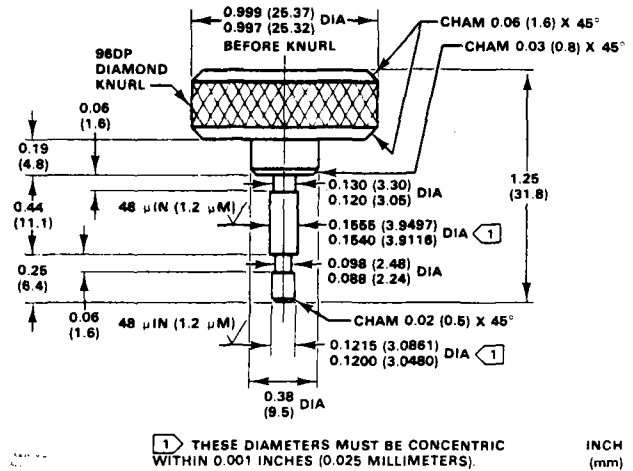

Figure 11. Relay Alignment Tool
Although the alignment tool shown in figure 11 is not required for assembly of the relay, use of the tool will prevent excessive air consumption and dead band. If low air consumption and minimum dead band are required, make or purchase the alignment tool before disassembling the relay. Key numbers used in the following procedure are shown in figure 17 for standard relays and in figure 18 for high-temperature relays except where indicated.
6. Install screws (key 96) and, for standard relays, washers (key 98) but do not tighten the screws.
7. If an optional alignment tool (figure 11) is to be used, insert the smaller end of the tool into the opening in the relay body. If the tool does not engage the hole in the diaphragm assembly, move the relay parts slightly to reposition the diaphragm assembly so that the alignment tool engages the hole in the diaphragm assembly. Do not remove the alignment tool until the relay screws have been tightened.
8. Tighten the relay screws (key 96) evenly. Remove alignment tool if one was used.
9. Install valve plug, spring, gasket, and cover plate (keys 87, 93, 94, and 95). Secure with machine screws (key 97).
10. Install O-ring (key 90) on the restriction assembly (key 88). Install restriction assembly into the relay casing.